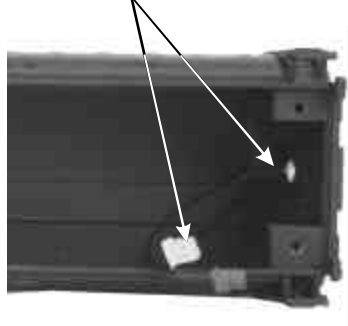

Figure 8b
The marker lights for the tender can be replaced following the same procedure use for the engine. Remove the six screws that attach the tender body to the tender frame as shown in fig. 8b.
1. Unplug the yellow connector in the rear of the tender shell. See fig. 8b